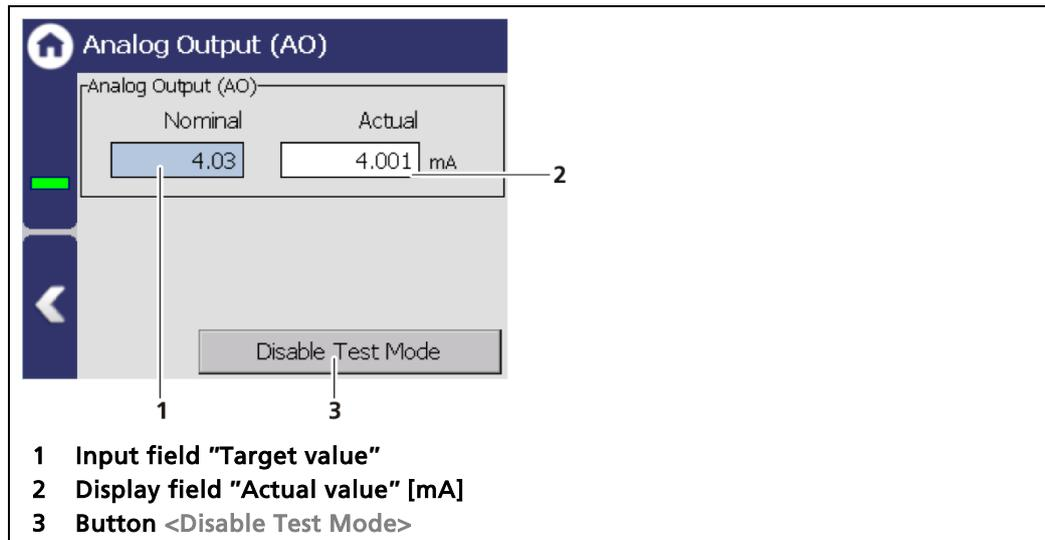

Fig. 105 Analog output simulation
1. Click on the input field (Fig. 105, item 1) and enter the target value for the simulation.
3. Click on the <Disable Test Mode> button (Fig. 105, item 3) to stop the simulation.